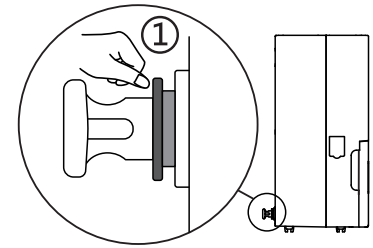

Figure 1
1. You will first need to remove the plug from the drainage joint in the rear of the dehumidifier. To remove the plug, you must first press the grey o-ring all the way in (figure 1), and then gently remove the plastic plug (figure 2).